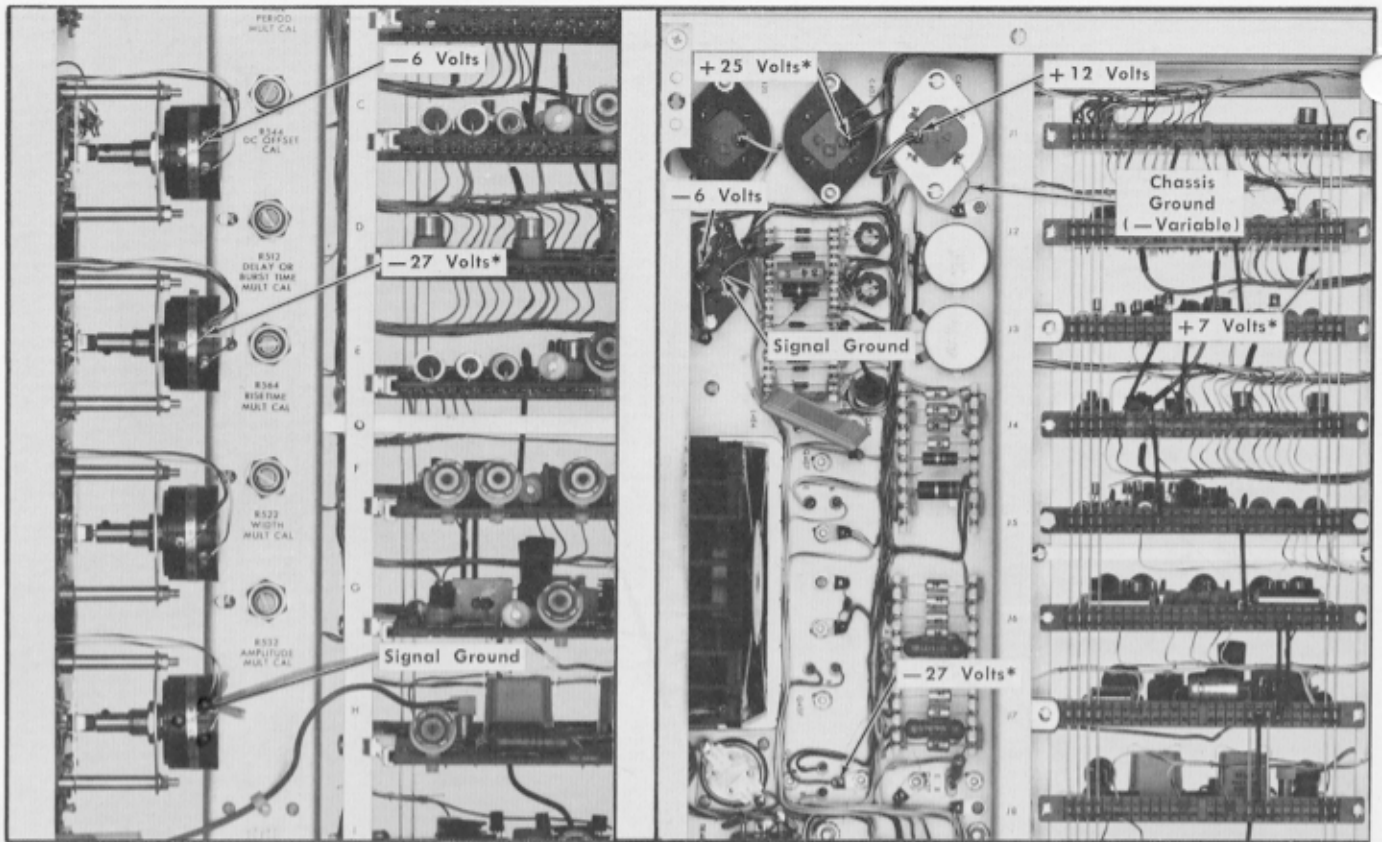

Fig. 7-5. Power-supply test points for checking voltages and regulation.
- c. Connect the negative lead of the differential voltmeter to the signal ground test point (see Fig. 7-5) and the positive lead to the +25-volt test point.¹
- a. Move the positive lead of the differential voltmeter to the +7-volt test point (see Fig. 7-5).
- h. Move the negative lead to the chassis ground (-Variable) test point (see Fig. 7-5).
- c. Connect the Channel B 1× test probe to the signal ground test point (see Fig. 7-5).
Voltage Test Point (Fig. 7-5)	Maximum Ripple